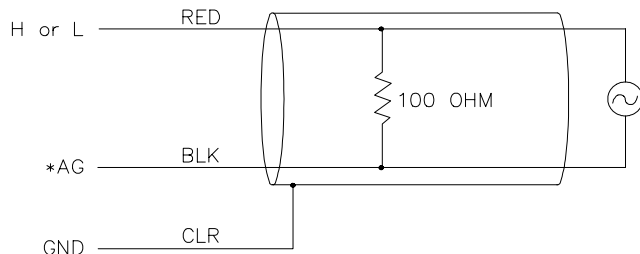

Figure 3. Single-ended Measurement Connection
*AG in Figure 3 refers to Analog Ground in the CR10, which is the same as ground for the 21X and CR7.